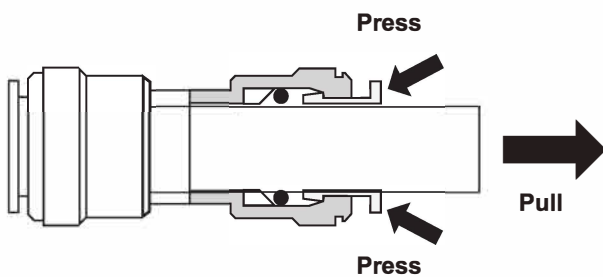

Figure 2
- Use your thumb and index finger to press down on the lock sleeve. Use your other hand to pull out the tubing from the fitting (Figure 2).